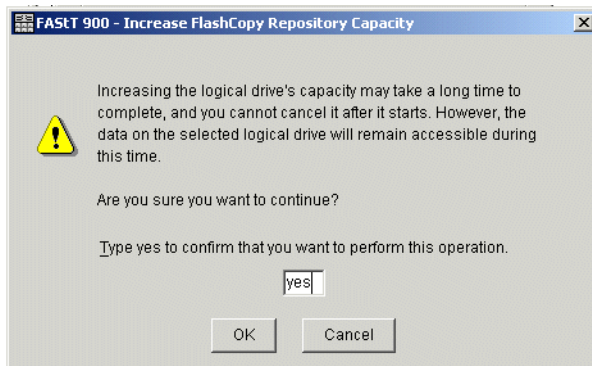

Figure 7-43 Increase FlashCopy Repository Capacity - Confirmation
- ii. A confirmation dialog is displayed (Figure 7-43).